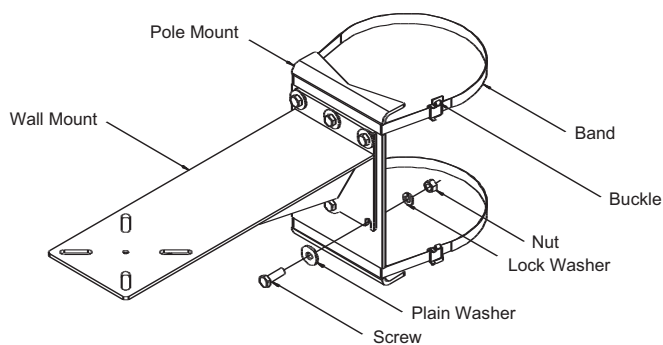

Figure 3: Securing Model MT9225
- For model MT9225 with a MT9216 or a MT9222, secure the wall mount to the pole mount using the six (6) 12 mm screws, plain washers, lock washers and nuts provided. See **Figure 3**.